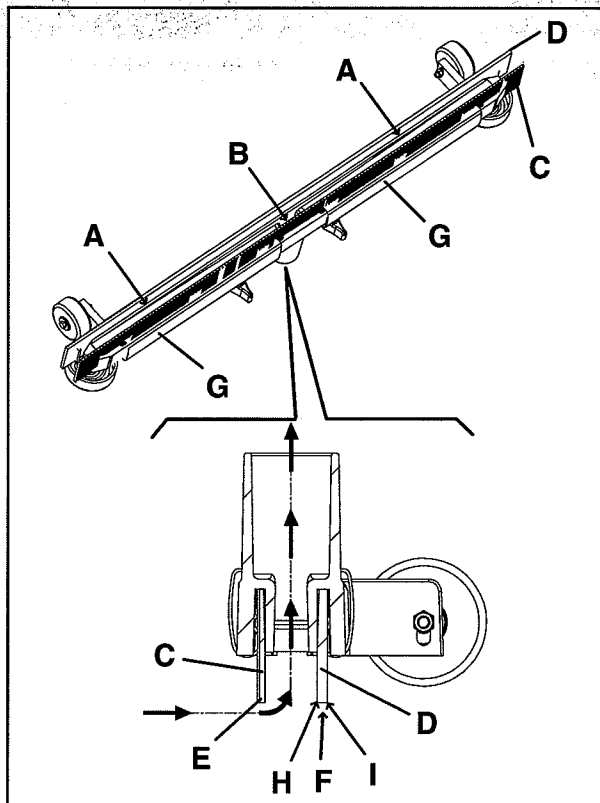

Figure 17
6. Check the front blade (C, Fig. 17) and the rear blade (D) for wear, cuts and tears; if required replace them according to the procedure in the "Squeegee Blade Check and Replacement" section below).
2. Check that the edge (E, Fig. 17) of the front blade and the edge (F) of the rear blade lay down on the same level, along their length; otherwise adjust their height according to the following procedure:
- Remove the fixing springs (G, Fig. 17) and adjust the front blade (C) and the rear blade (D).
3. Check the front blade (C, Fig. 17) and rear blade (D) for wear, cuts and tears. If necessary, replace them according to the following procedure:
- Remove the spring clamp (G, Fig. 17) and replace the blade.
– Reinstall the spring clamp (G, Fig. 17).